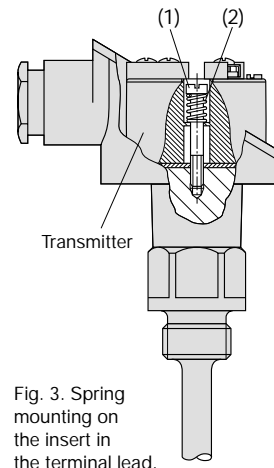

Fig. 3. Spring mounting on the insert in the terminal lead.
Thread the leads through the hole in the centre of the transmitter. Align the transmitter in the lower part of the terminal head and secure it using two cheese-headed screws (1) and two springs (2) (see Fig. 3). Connect the leads acc. to section "7. Electrical connections".